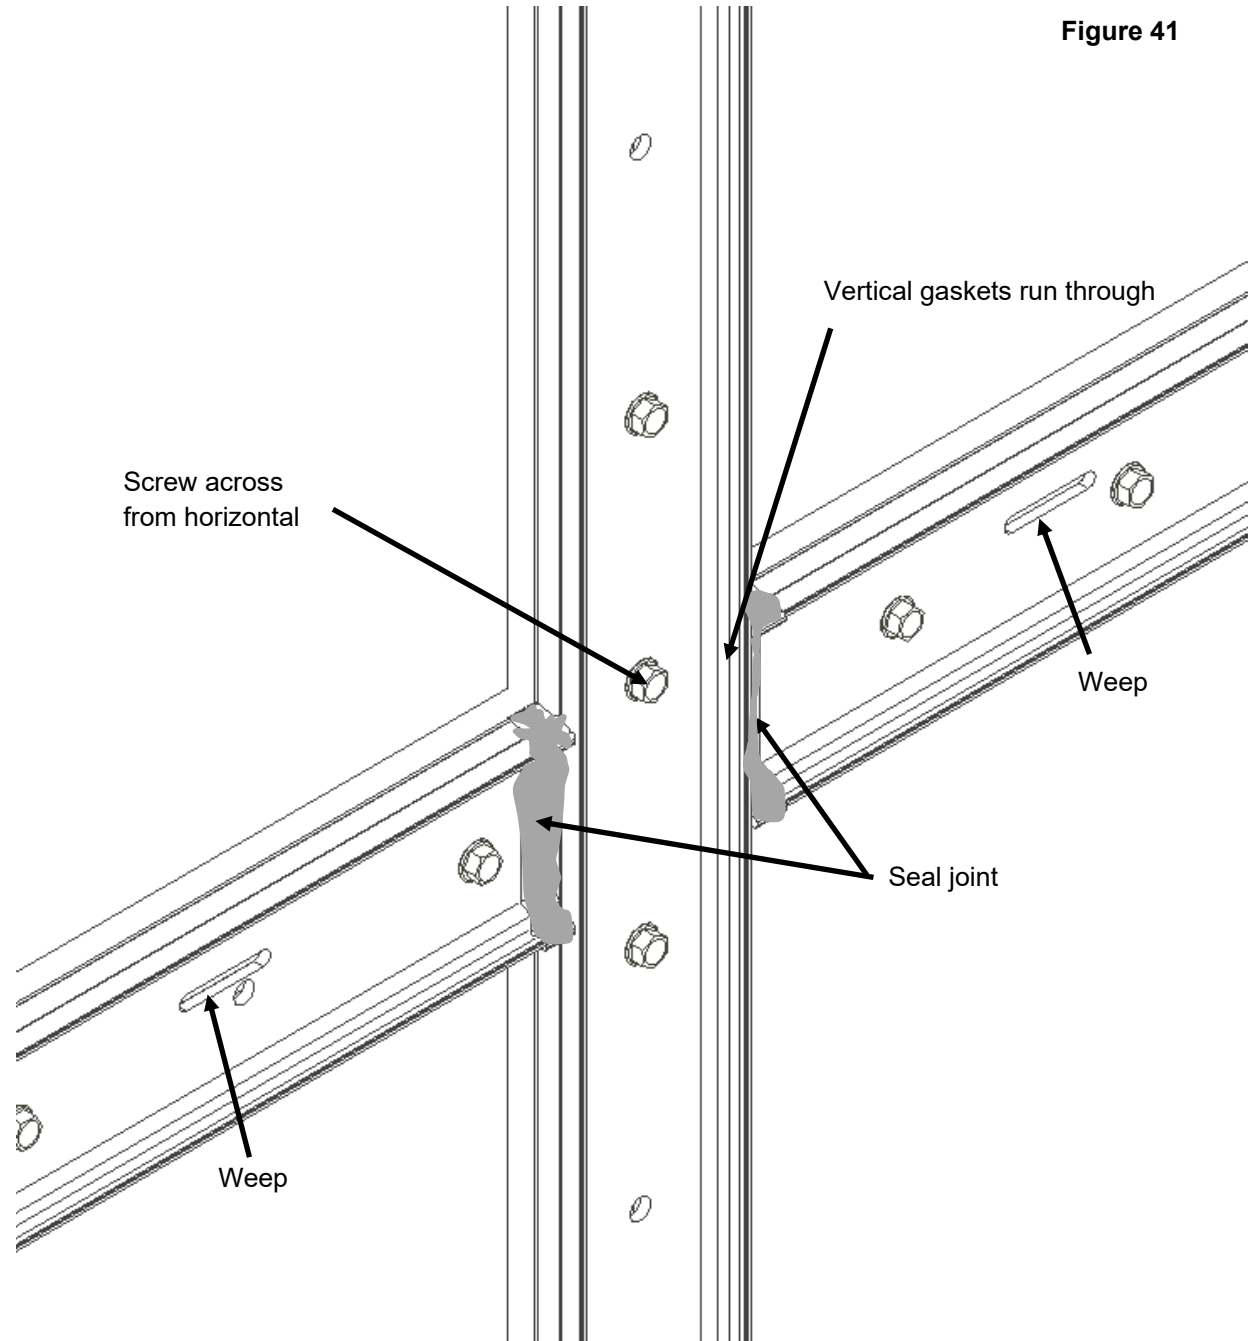

Figure 41
4. Seal all joints between vertical and horizontal pressure plates. This should be done just prior to installing the covers so that the sealant doesn't cure and make the cover difficult to snap on (Figure 41).